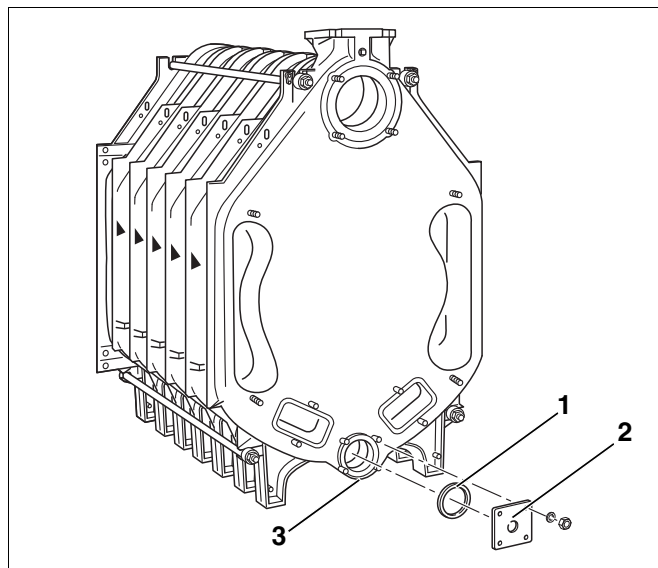

Fig. 26 Fitting the flange
- ▶ Close off lower boiler hub (Fig. 26, [3]) at the front and rear. To do this, place corresponding seal (Fig. 26, [1]) on the relevant boiler hub and screw on flange cover with edge length 110 mm. In this case, the flange with the tapped hole (R ¾) for the fill and drain connection (Fig. 26, [2]) is mounted on the rear of the boiler.